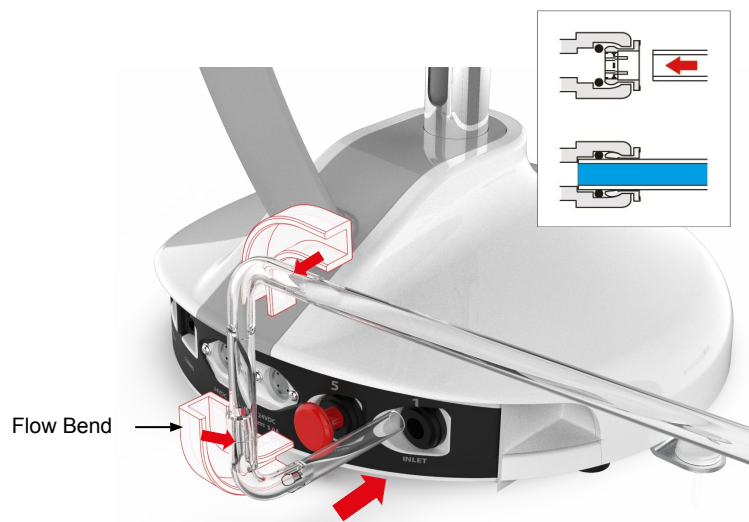

Fig.10
b. Using the tube supplied, firmly push one end securely into Port 1 inlet connection. Use the flow bends provided to mould the tube into position. (Fig.10)